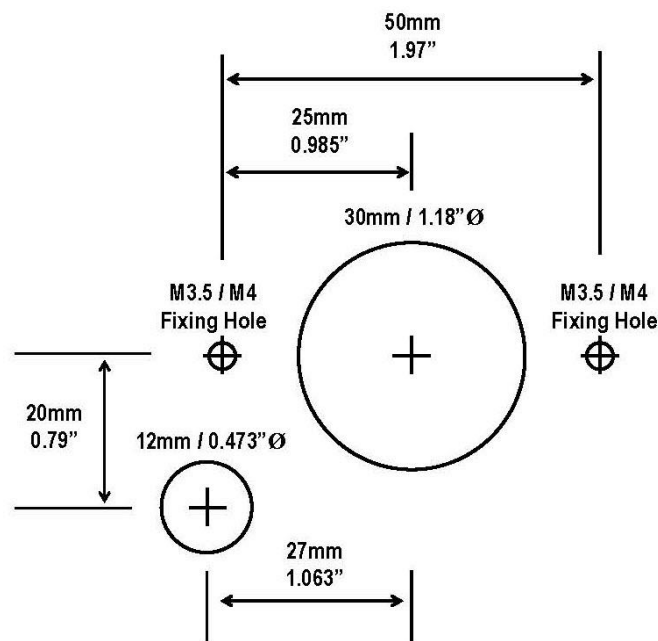

Figure 19: SM7 sensor cut-out template
1. Use the cut-out details provided with the sensor (Figure 19) to cut-out and drill the holes in the fume cupboard for the SM7 sensor.